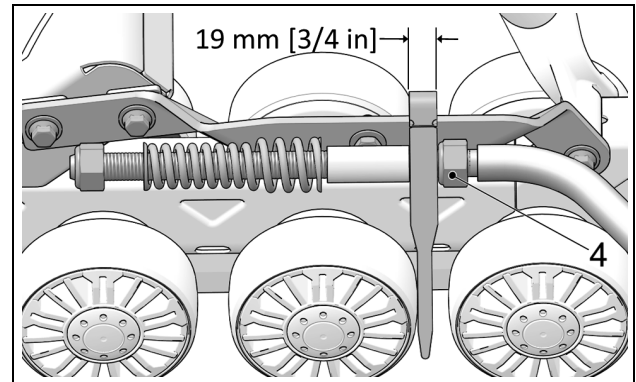

Figure 12
- Set the nut (4) to obtain a distance of 19 mm [3/4 in] between nut and stabilizing arm guide as shown on Figure 12.